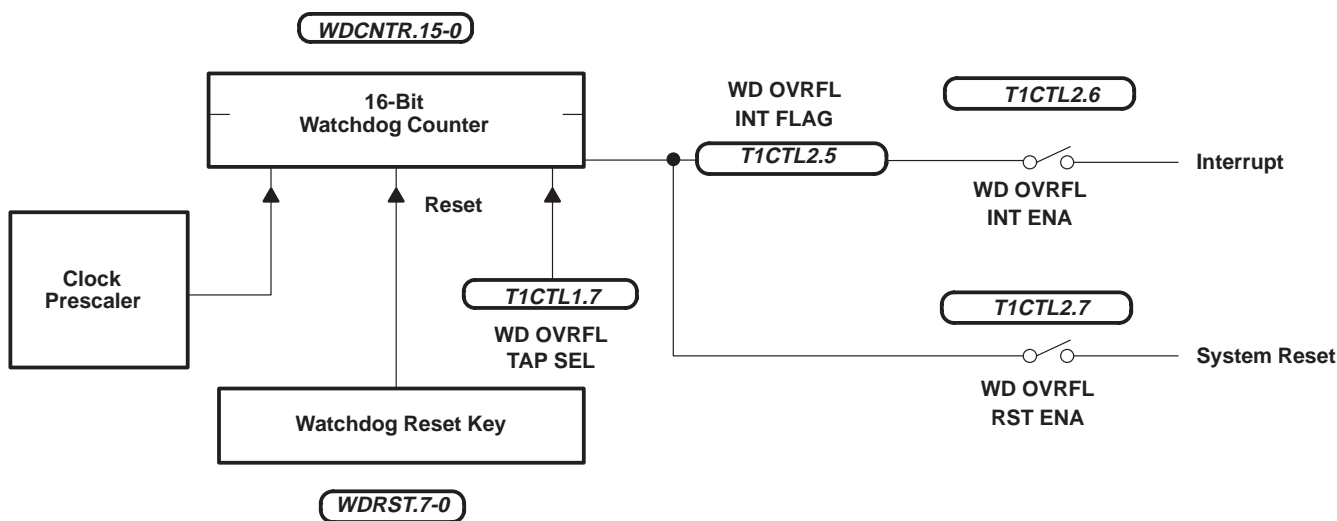

Figure 8. Standard Watchdog
- Standard watchdog configuration for EPROM and mask-ROM devices (see Figure 8)